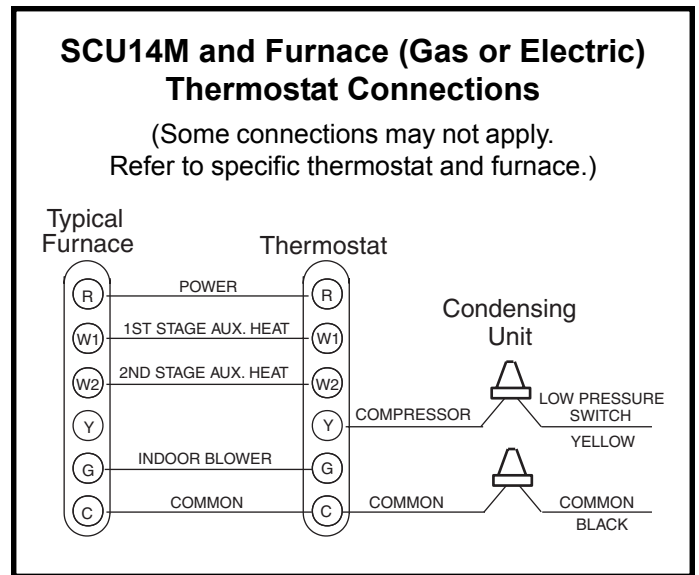

Figure 2
3. Install low voltage wiring from outdoor to indoor unit and from thermostat to indoor unit (see Figure 2 on this page and Figure 7 on page 14).